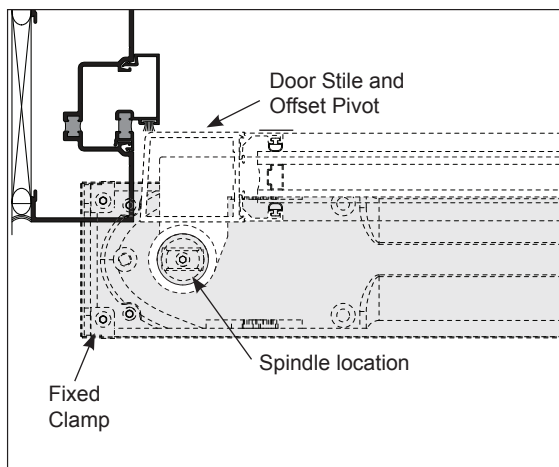
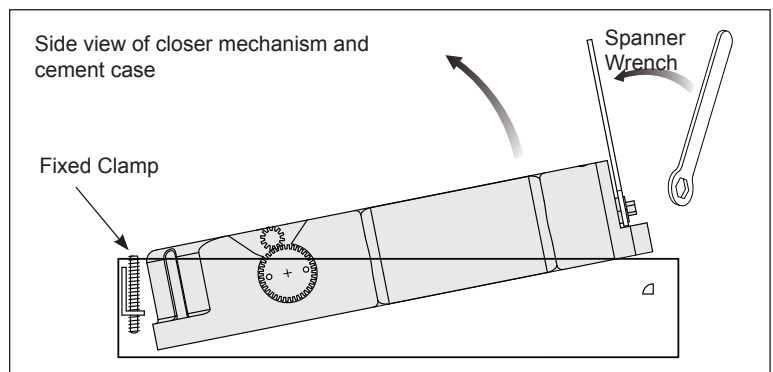

FIG. 4
FIG. 5
2. Fabricate a recess opening in the floor for the closer and cement case. When completed, set the cement case in the prepared floor opening with the fixed clamp side of the case nearest to the door jamb. **(Fig. 4)** The closer mechanism can be removed from it's case if needed. Simply turn the set screws on the Fixed and Removable Clamps to release the mechanism. Lift the front of the closer using the adjustment Spanner Wrench included in the kit. **(Fig. 5)**